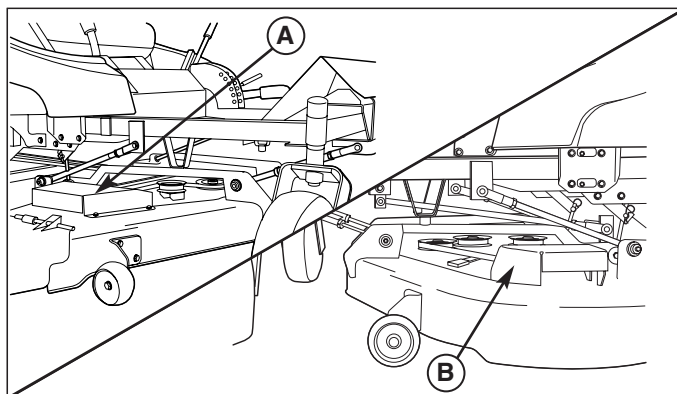

Figure 27. Belt Covers
2. Remove the capscrews securing the left and right belt covers (A, B Figure 27) and remove the covers.